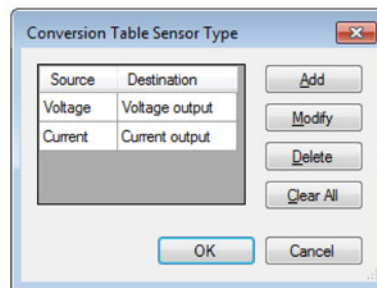

Figure 3.115: Conversion Table Sensor Type menu
- Define the following sensortype conversion table (see Figure 3.115):